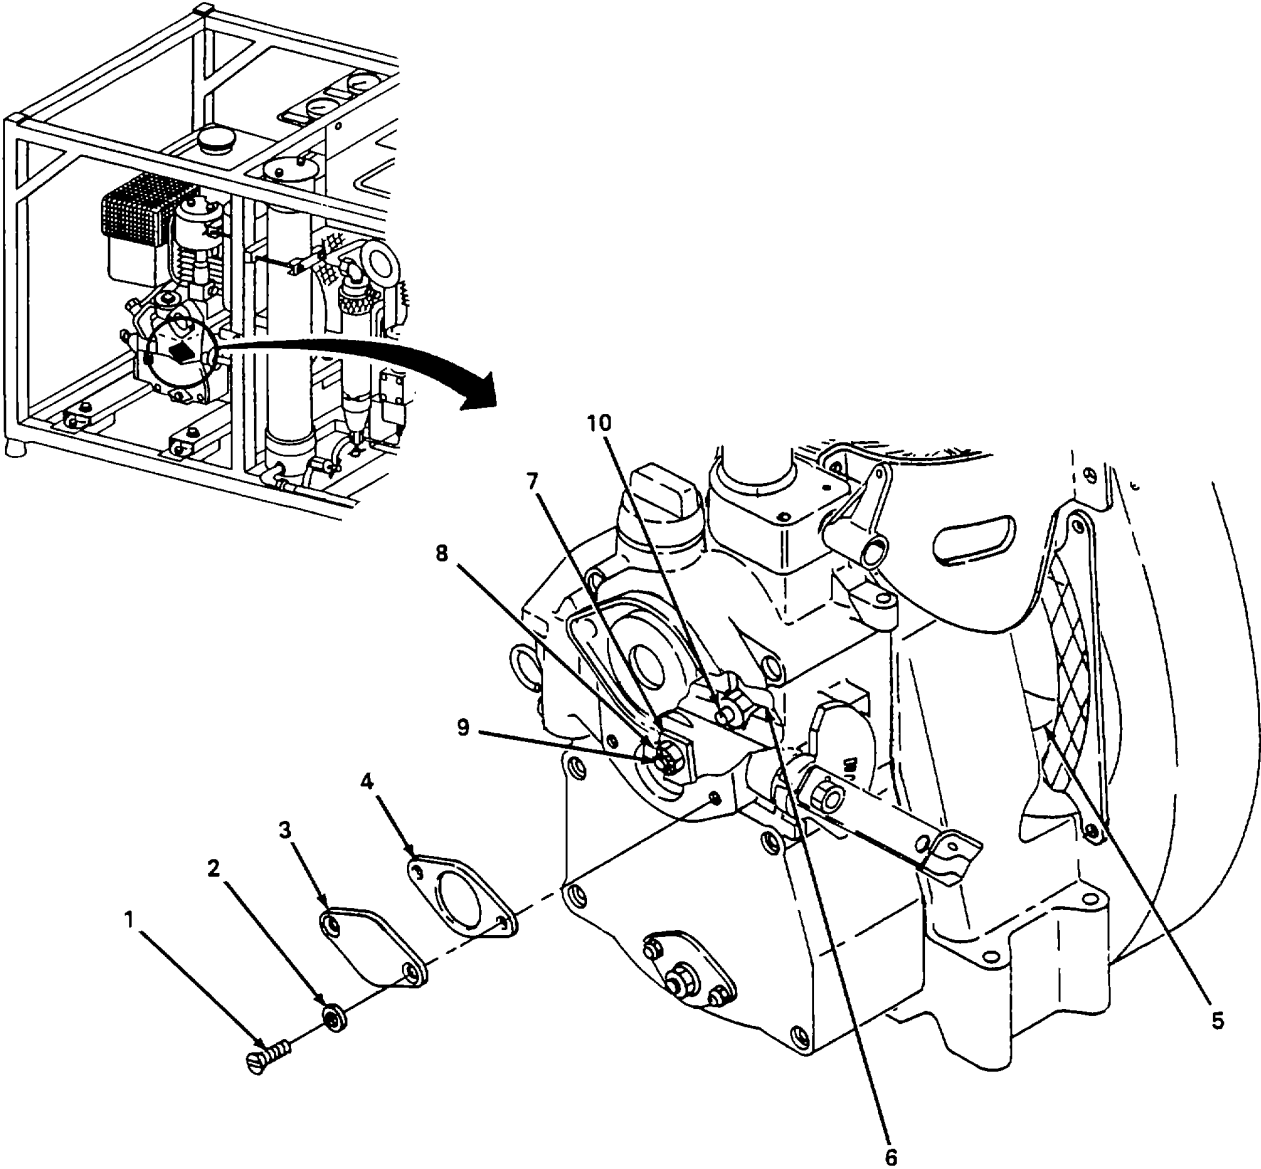

Figure 4-27. Governor Assembly, Adjust.
*Adjust.* (figure 4-27)
- (1) Remove two screws (1), washers (2), plate (3), and gasket (4).
- (2) Rotate flywheel (5) until weights (6) are split in the vertical position.
- (3) Bend locking tab (7) away from nut (8).
- (4) Loosen nut (8).
- (5) Pry weights (6) as far apart as they will go.
- (6) Screw in screw (9) until it contacts governor pin (10).
- (7) Allow weights to come together.
- (8) Turn screw (9) an additional 1/2 turn in.
- (9) Hold screw (9) and tighten nut (8).
- (10) Bend locking tab (7) to secure nut (8).